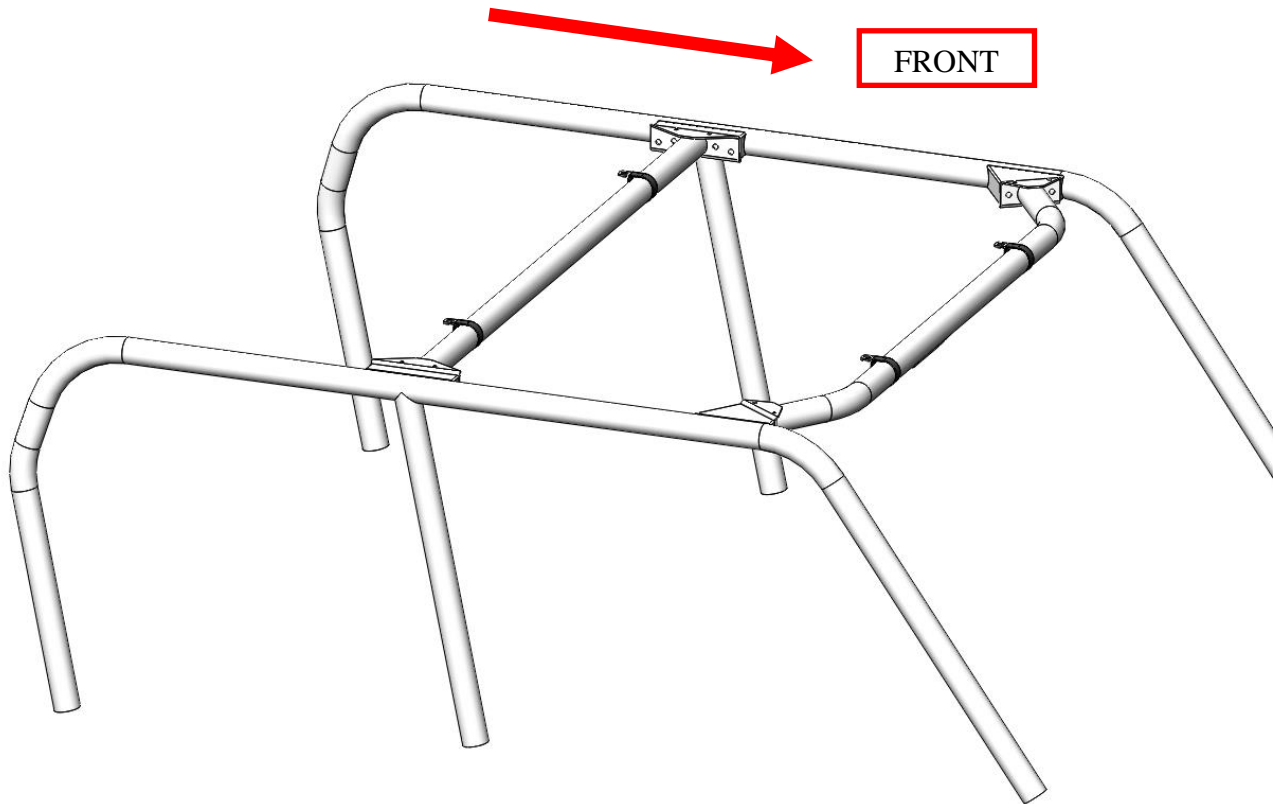

Figure 5: Approximate clamp locations (FXT / DXT cage shown, FX / DX cage similar).
2. Spread the clamps by hand and slide them over the cage tubing. Place them on the cage in the approximate locations shown in Figure 5. Note the orientation of the clamp tab. It must line up with the hole, flat against the top, on the correct side of the tubing.